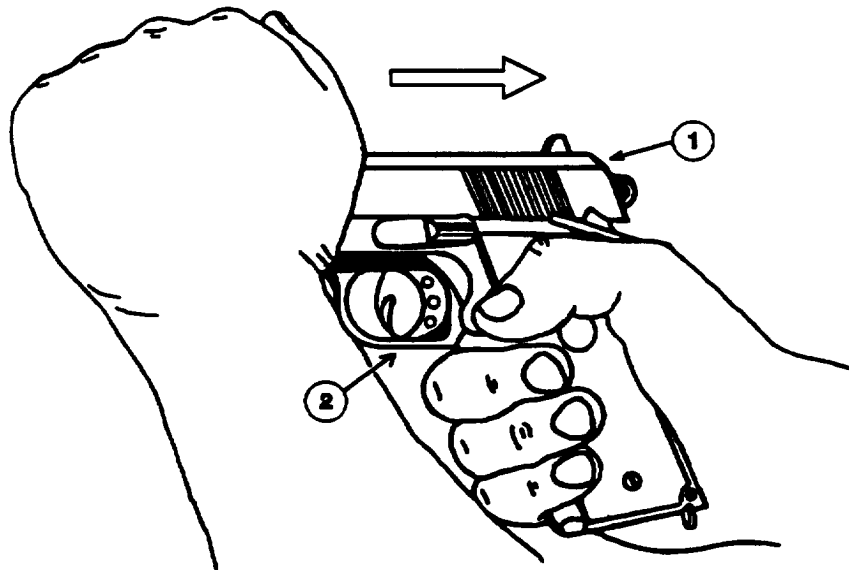

Figure 6-40. Disconnecter Test
(1) With the pistol unloaded, cock the hammer, push the slide assembly (1), Figure 6-40, 1/8 to 1/4 inch to the rear and hold in that position while squeezing the trigger (2). Let the slide assembly go forward, maintaining pressure on the trigger. If the hammer falls, replace the disconnector.
(2) Pull the slide assembly rearward and engage the slide stop. Squeeze the trigger and release the slide assembly simultaneously. The hammer should not fall; if it does, replace the disconnector.
(3) Release the pressure on the trigger and then squeeze it. The hammer should then fall; if it does not fall, replace the sear and/or trigger. Also, check for a faulty disconnector which would prevent the hammer from falling. The disconnector should prevent the release of the hammer unless the slide assembly is in a forward position and locked into battery. This also prevents the firing of more than one shot with each squeeze of the trigger.